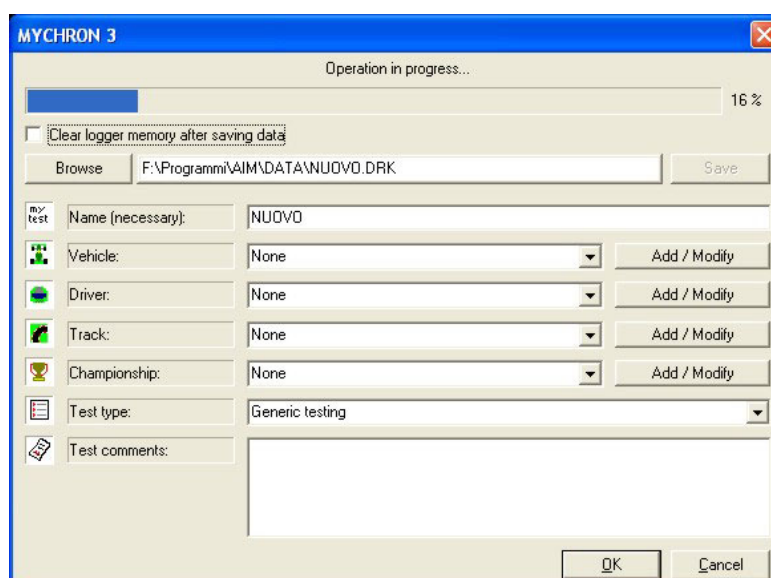

Figure20: Race Studio 2 data download window
- Select **EVO 3** and press button *Download*. It will appear the screenshot shown in Figure 20;